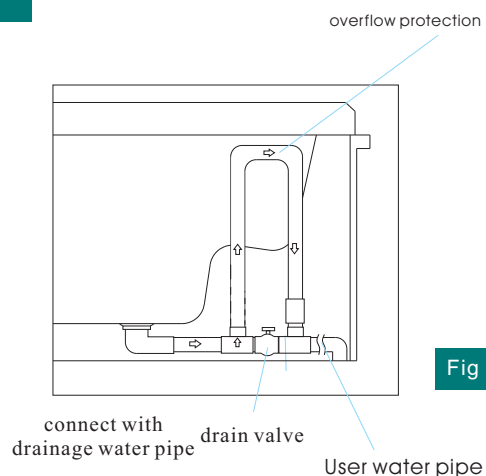

Fig 1
1. Please connect the water pipe before installed the products. (Fig. 1)